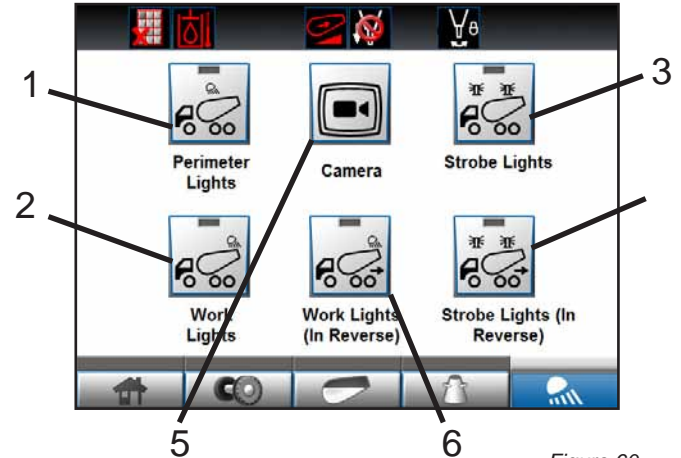

Figure 60
- a. The button will illuminate if output is turned on (all indicators shown on in Figure 60).
Both valves may be equipped with a drain option. This feature automatically drains the water from the hose(s) beyond the valve, through a small hole at the rear of the valve (Figure 60, Item 2).